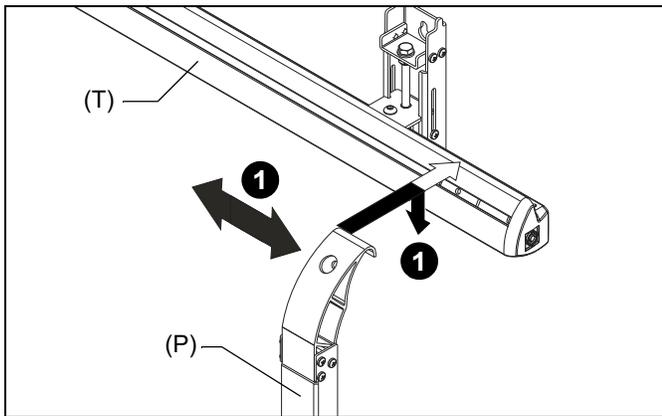
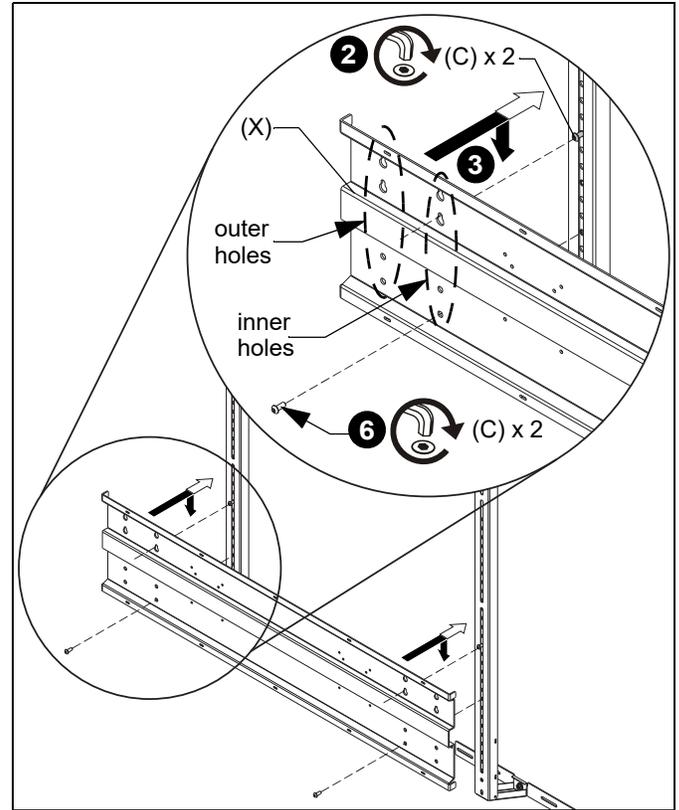

Figure 12
Figure 13
1. Hang both upright assemblies (P) on the wall assembly (T) and laterally shift upright assemblies as needed to use the inner or outer cross bracket hole set. (See Figure 12)
2. Insert one 1/4-20 x 3/4" button head flange screw (C) into pre-installed (PEM) nuts at the desired height in both upright assemblies (P). (See Figure 13)
3. Hang cross bracket (X) through upper or lower set of tear-drop mounting slots onto 1/4-20 screws (C) inserted in Step 2.
4. Complete attaching the cross bracket (X) by inserting two 1/4-20 x 3/4" button head flange screws (C) through lower mounting holes in cross bracket. (See Figure 13)
5. The mounting system may be laterally shifted by moving the upright assemblies (P) laterally along the wall assembly (T) to the desired location.
6. Tighten the button head cap screws on the wall brackets to fasten the wall assembly in place. (See Figure 12)